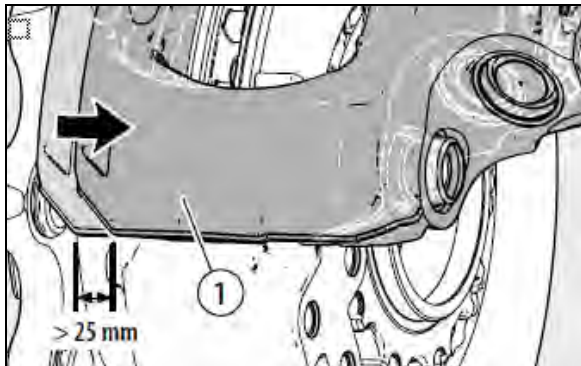

FIGURE 50: FREE MOVEMENT OF CALIPER > 0.984 IN / 25 MM
8. Caliper (1) must slide freely along the whole length of the guide pin arrangement; movement should be greater than 0.984 in / 25 mm. (see Figure 50).